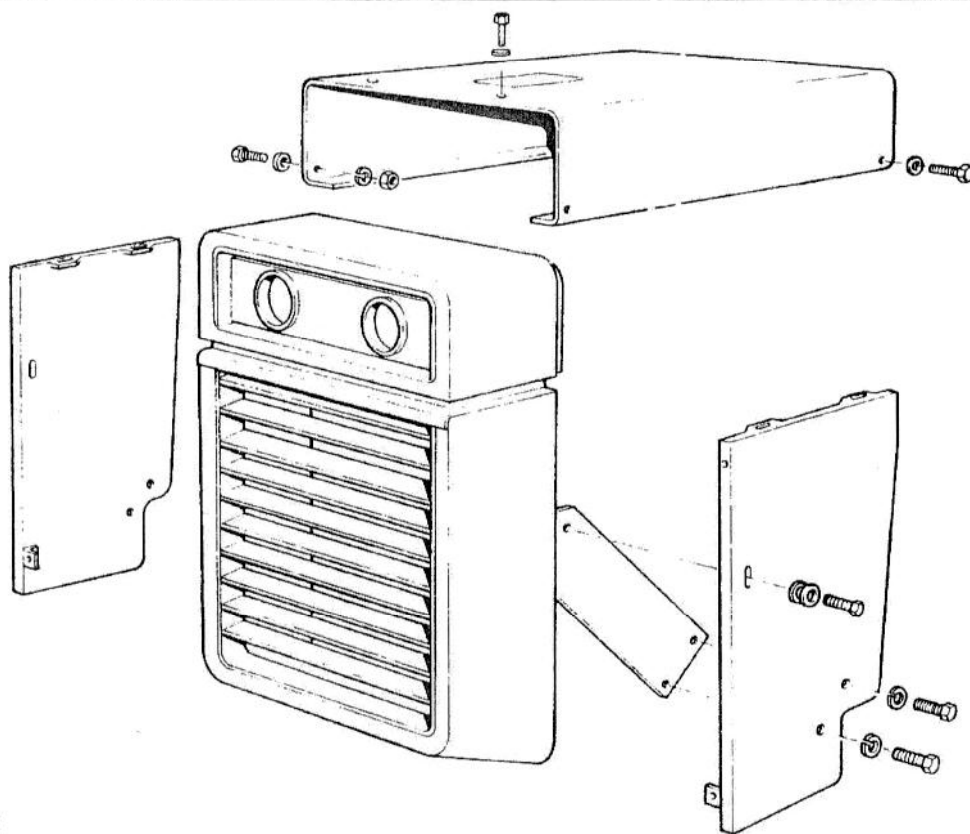

FIG. 2
3. (Fig. 2) Remove the hood and side panel assemblies. The hood is secured to the bulkhead at each side by a screw and lockwasher, to the hard nose by two screws and lockwashers on the top of the hood and to the rear frame of the hard nose by two screws, plain washers and lockwashers. Disconnect the side panels by removing three bolts and washers securing the side panels to the hard nose rear supports and two bolts and washers securing side panel brackets to the nose front support.